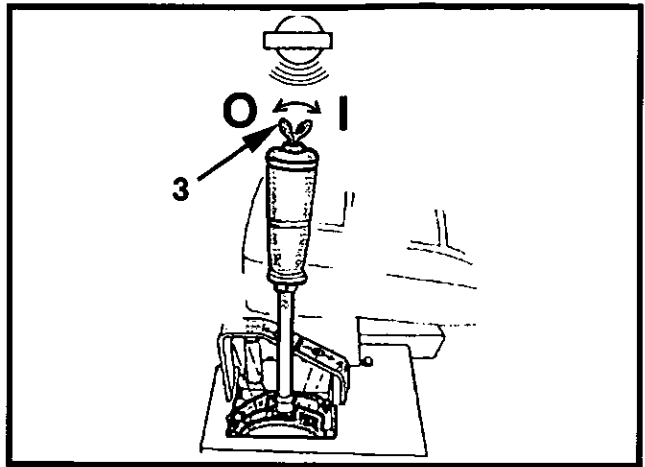

Figure 4-17 Vibration ON/OFF Control Switch
1. Vibration ON/OFF control ( 3, Figure 4-17).
2. For normal stopping, move propulsion control lever slowly to the STOP position (Figure 4-17).